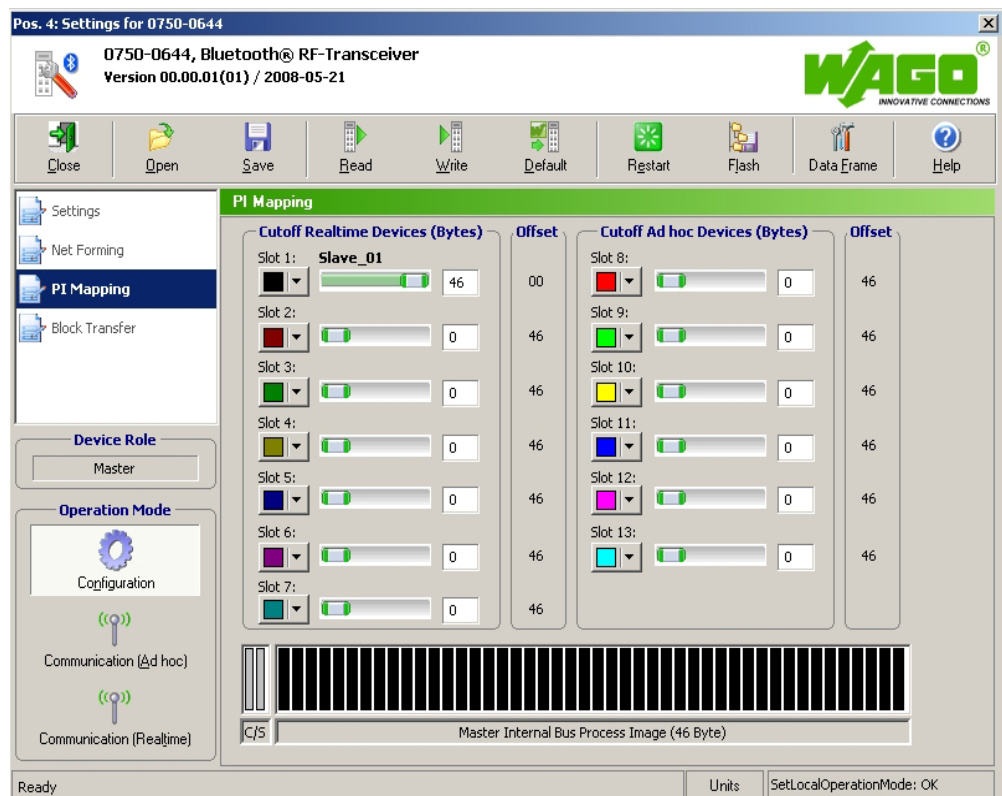

Figure 51: PI Mapping
Start with point 3 while the *Bluetooth*[®] parameterization dialog (siehe Figure 51) is still open.
4. Move the ruler for the first slave to the right so that the first slave is assigned the maximum possible number of bytes in the process image of the master (see Figure 51).